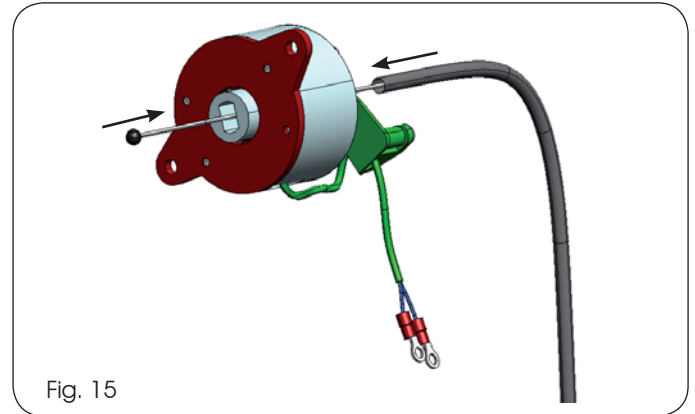

Fig. 15
1. Fit the supplied cable inside the body of the electro-brake until it comes into contact with the end ball (Fig.15);
2. Fit the sheath of the cable until it comes into contact with the electro-brake body (Fig.15);